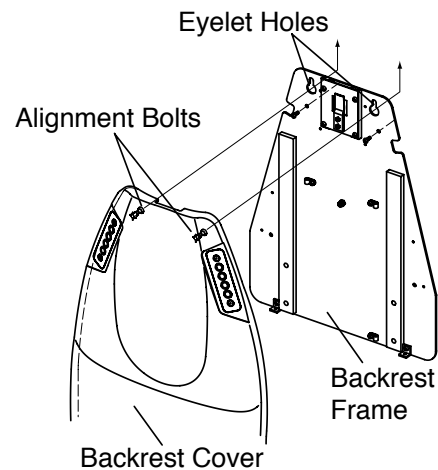

Figure 6a
a) Insert backrest cover alignment bolts into eyelet holes in backrest frame, as shown in figure 6a.